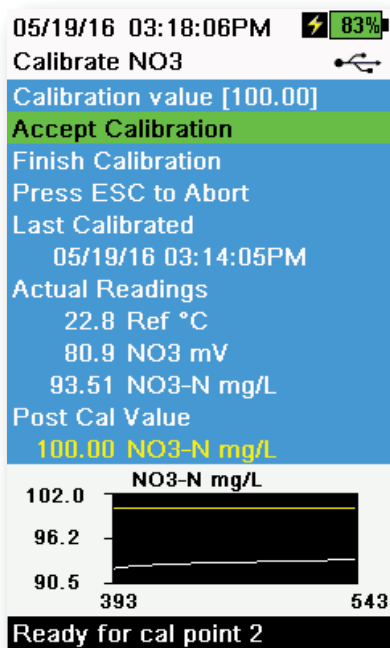

Figure 60 Calibrate ISE
8. Observe the actual measurement readings for stability, and then select **Accept Calibration** (Figure 60). "Ready for cal point 3" will be displayed in the message area.